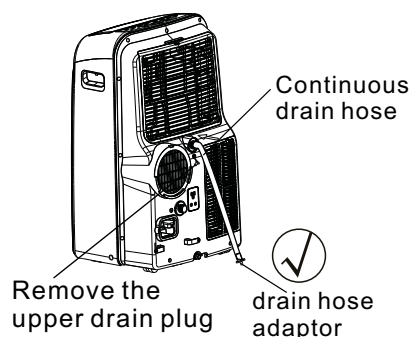
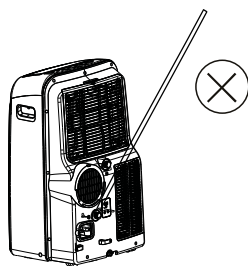

Fig. 18a
Fig. 19b
- While operating in dry (dehumidify) mode, remove the upper drain plug from the back of the unit, install the drain connector (5/8 universal female mender) with 3/4" hose (locally purchased). For the models without drain connector, just attach the drain hose to the hole. Place the open end of the hose adaptor directly over the drain area in your basement floor. Please refer to Fig. 18a.
NOTE: Make sure the hose is secure so there are no leaks. Direct the hose toward the drain, making sure that there are no kinks that will stop the water from flowing. Place the end of the hose into the drain and make sure the end of the hose is down to let the water flow smoothly. (See Fig. 18a, 18b, 19a). Do not let it up. (See Fig. 19b).